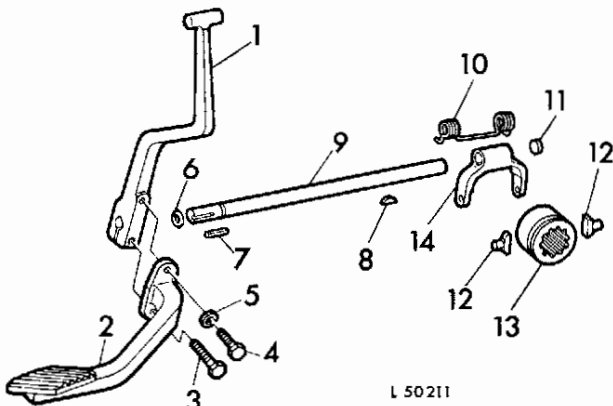

Fig. 2 — Differential Lock Assembly
Remove cap screws 3 and 4 (fig. 2), remove pedal and drive lever off the shaft. Remove key 7 from shaft.